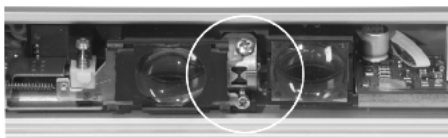

Figure 5.2 Installing master / slave modules
1. Use the chassis lever to move the module to the first marked line on the module holder (see Figure 5.2), and use the M3 screw to fasten (g).
- Please make sure that the module holder's stem locks into the borehole of the chassis safely. The chassis clip has to be visible in the middle of the module holder (See inside circle of Figure 5.2).